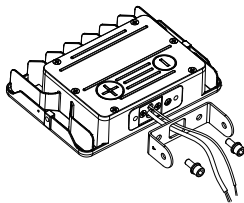

figure 2.1
Step 2: Pass the wires through hole of bracket. (figure 2.1)